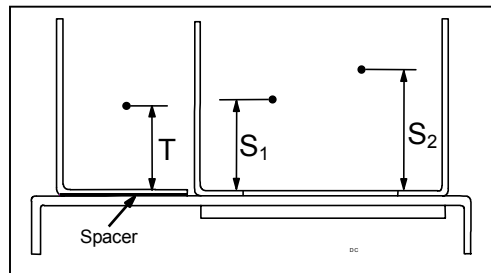

Figure 1. Corotron Wire Heights
4. (Figure 1) Check that the height of the Transfer Corotron Wire (Dimension T) is as recorded on the label inside the removed cover. (Labels on some machines may be located inside the right door.)
5. (Figure 1) Check that the heights of the Detack Corotron Wires (Dimensions S₁ and S₂) are as recorded on the label.